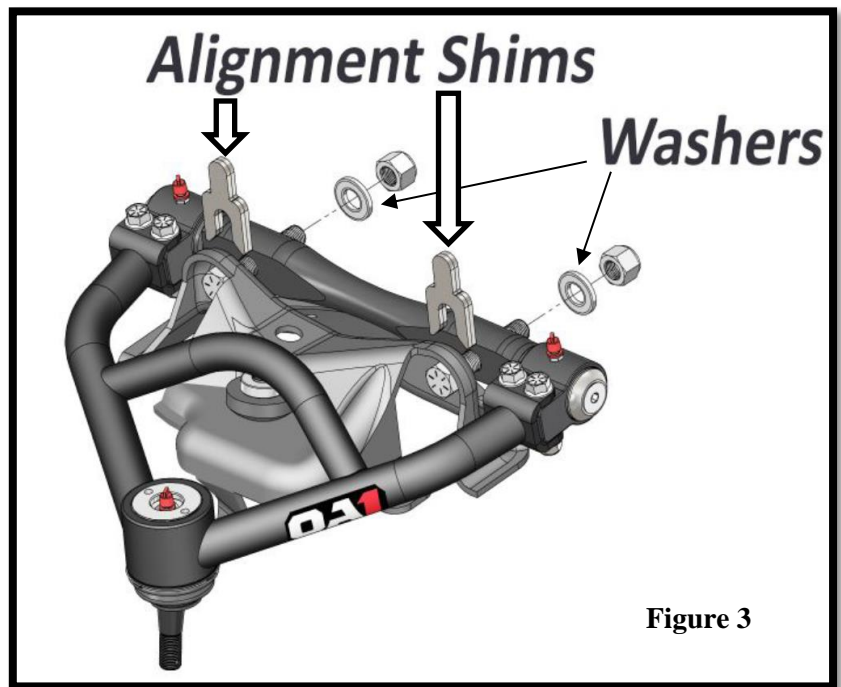

Figure 3
1. Install the provided washers between the aluminum cross-shaft and the factory hardware. The smooth side of the washer should face the cross-shaft. Failure to install a washer between the nut and the cross-shaft will damage the arm. **(Figure 3)**
2. Install QA1 upper control arms onto the mounting studs with all of the shims originally removed in their original positions. **(Figure 3)**